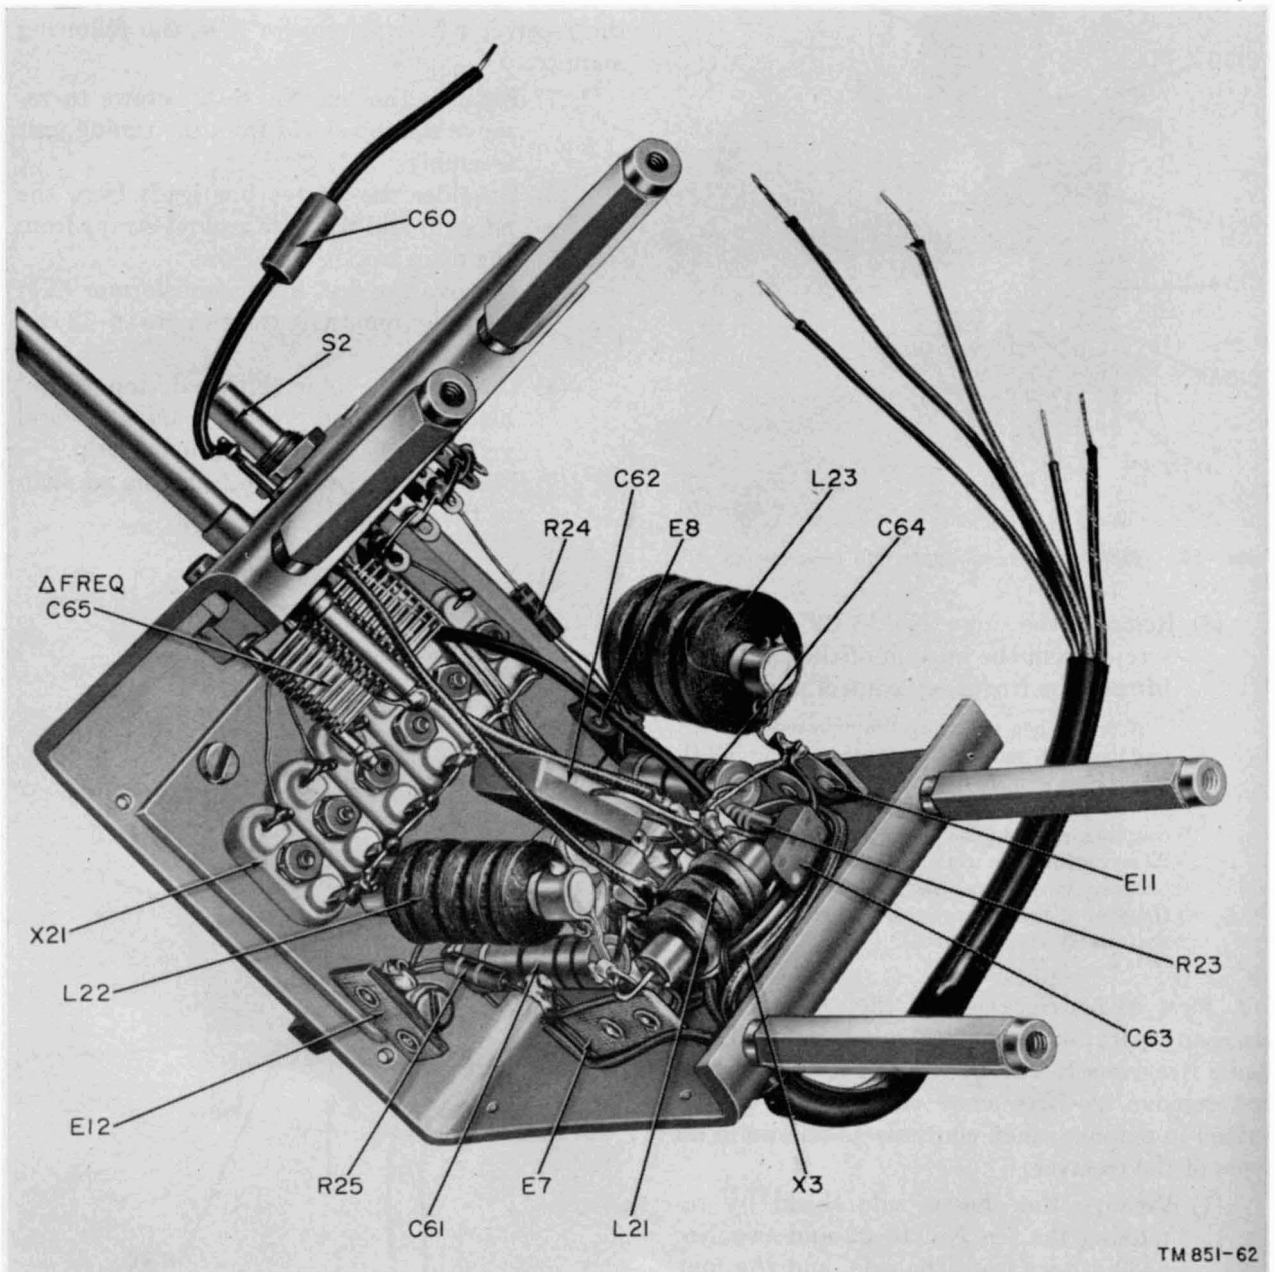

Figure 84. Radio Receivers R-274A/FRR and R-274C/FRR, frequency control unit, internal view, shield cover removed.
c. *Frequency Control Unit* (fig. 84). To replace any part in the frequency control unit of Radio Receiver R-274A/FRR or R-274C/FRR, follow the procedure below, in sequence: